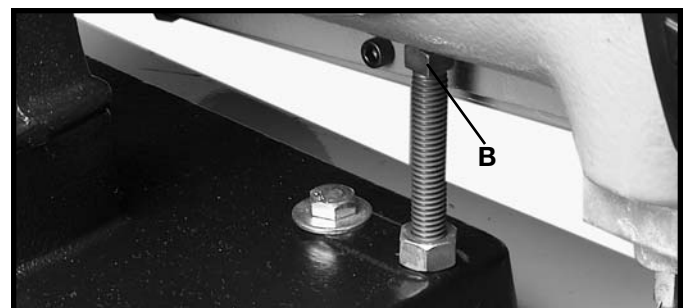

Fig. 19
2. When moving the sanding arm to the horizontal position, the arm will contact the stop (B) as shown in Fig. 19.